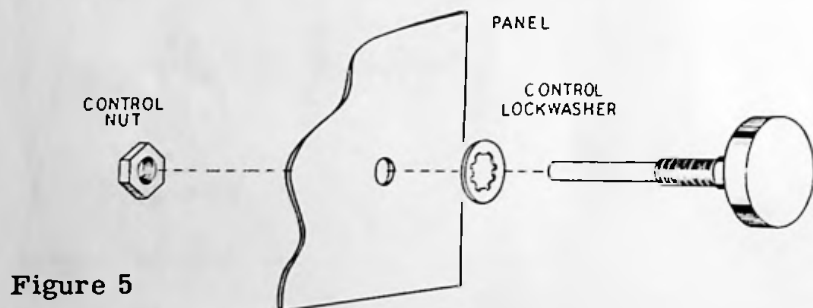

Figure 5
- () Mount the 600 Ω oscillator control with a control lockwasher and a control nut. See Figure 5.